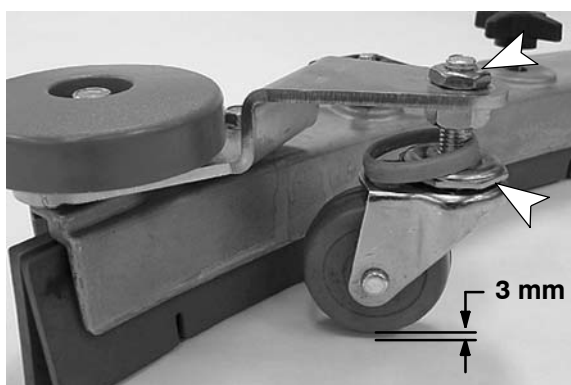

FIG. 55
- To check the squeegee assembly for proper adjustment, remove the squeegee assembly from the machine and place it on a level surface. Measure the distance between the caster and the surface. It should measure approximately 3 mm (Figure 55).
- To adjust the caster height, loosen the top nut and remove the plastic bearing cover to access the adjustment nut. Turn the adjustment nut until properly adjusted (Figure 55). After adjusting, tighten the top nut and replace the plastic bearing cover. Repeat step for the other caster.